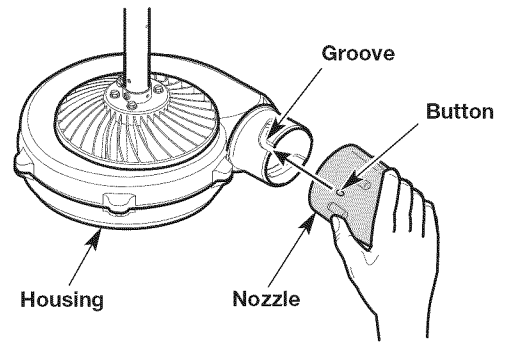

Fig. 1
1. Align the button on the inside of the nozzle with the groove on the housing (Fig. 1).